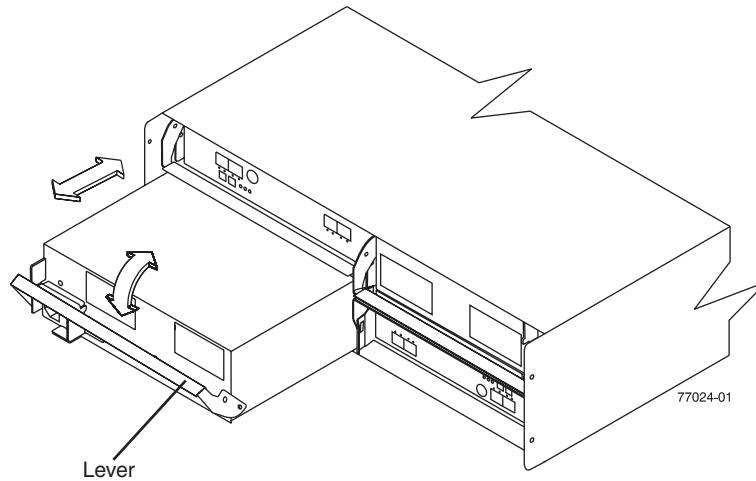

Figure 19. Removing a power supply and fan unit
2. Slowly pull the lever away from the chassis to remove the power supply and fan unit, as shown in Figure 19.